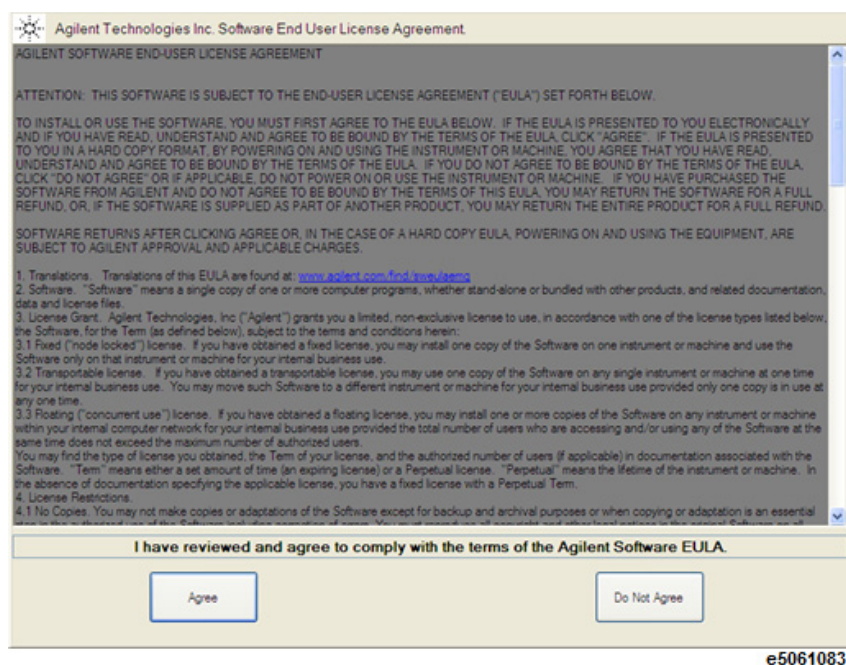

Figure 9 Windows XP Pro for Embedded Systems license agreement dialog box
Step 5. In the Keysight Tech. Software End User License Agreement dialog box, select the **Agree** button. **Figure 9** shows the license agreement dialog box in Windows XP Pro for Embedded Systems (for HDD Rev KY22x and above).